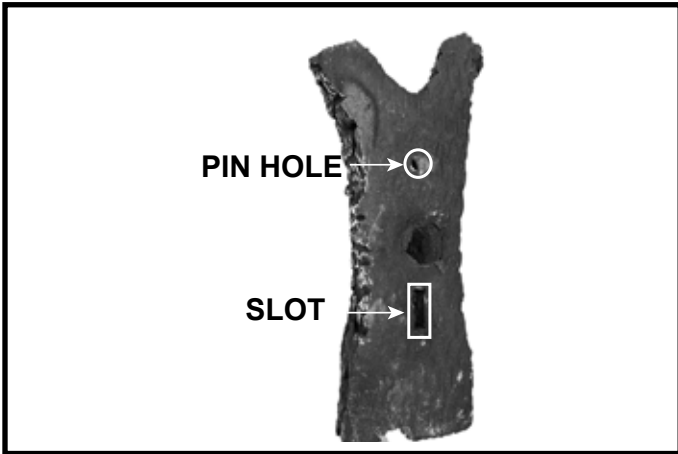
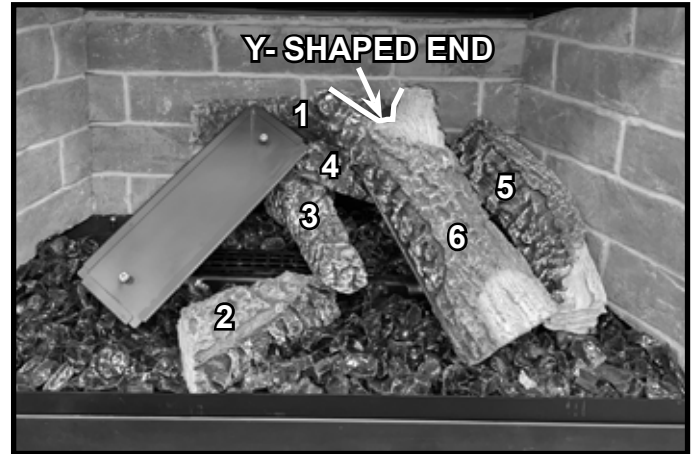

Figure 12 Log #6 Pin Hole and Slot
Figure 13 Log #6 Installed
**LOG #6:** Log #6 has a pin hole and a slot on the bottom of the log. See Figure 12. Engage the pin hole and the slot with the pins on the right side burner pan as shown in Figure 13. The Y-end of the log is placed at the top of the burner.